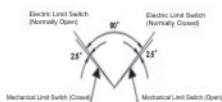

Fig. 8
- ◆ The same way to set the mechanical stop on the left side. When finish setting the micro switch, mechanical stop, should follow the (Fig. 8). under the abnormal circumstance, the limit switch cut off the power. If the limit switch malfunction, the mechanical stop will work. If the mechanical stop onward or overlap with micro-switch. The motor will not work at the full open & full closed; the motor will over-heat or burn out.